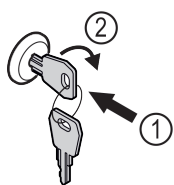

Fig. 158
- Insert the key. Fig. 158 (1)
- Turn the key clockwise by 90°. Fig. 158 (2)